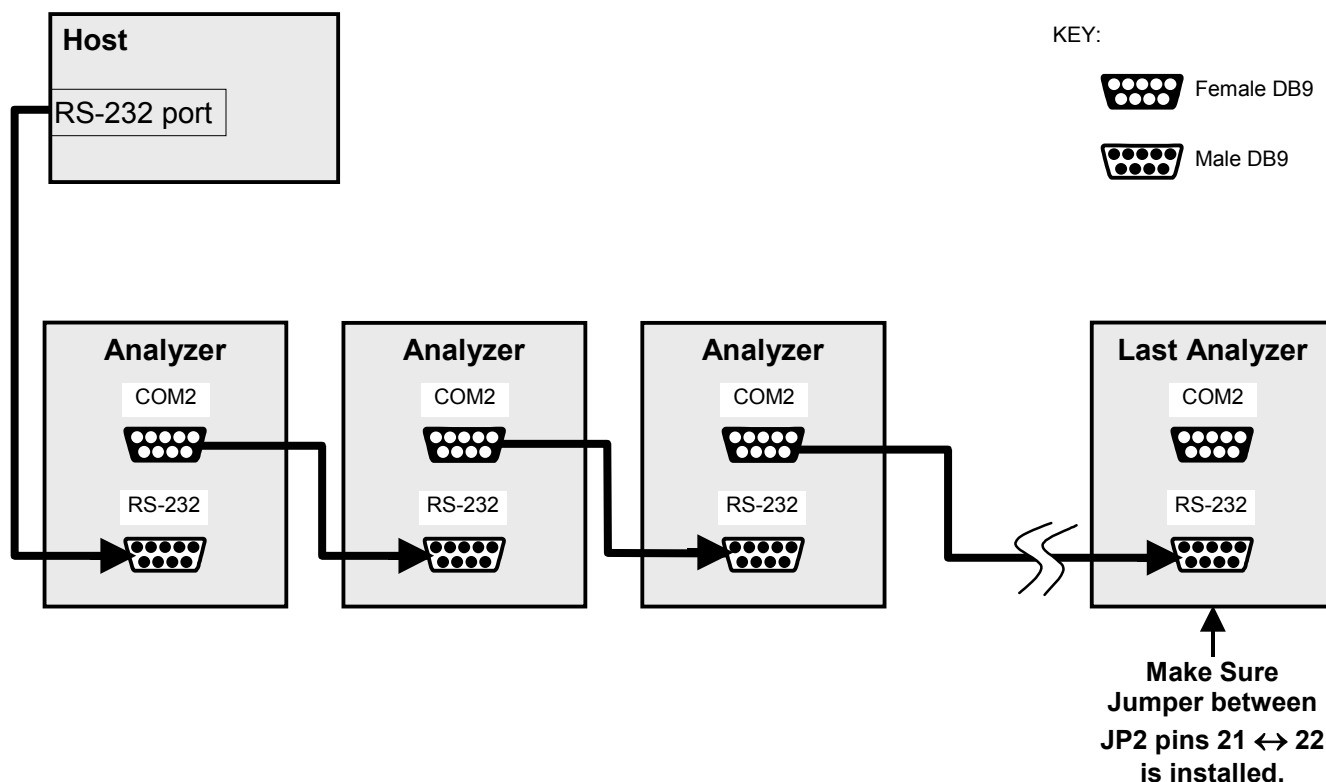

Figure 7-13: RS232-Multidrop PCA Host/Analyzer Interconnect Diagram
4. Using straight-through, DB9 male → DB9 Female cable, interconnect the host and the analyzers as shown in Figure 7-13.